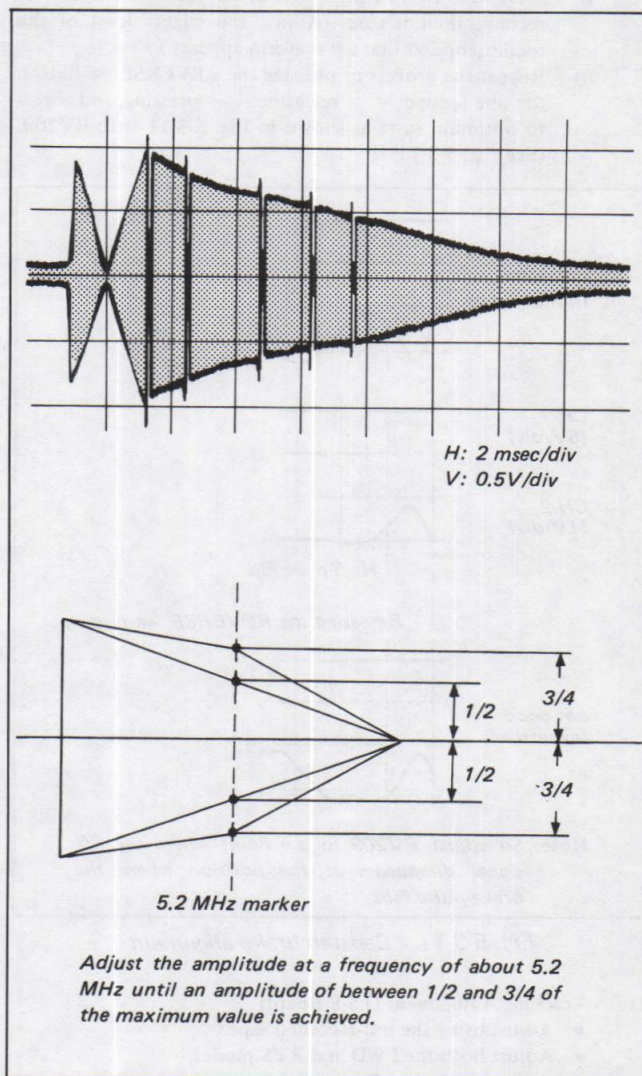

Fig. 5-4-1. Playback amplifier frequency characteristic adjustment
- If the characteristic shown in Fig. 5-4-1 can not be obtained by the adjustment of RV1 or RV3, the amplitude at around 4 MHz can be increased when L8 (6.8 μ H . . . A-CH) or L9 (6.8 μ H . . . B-CH) in REC/PB AMP BLOCK is replaced by 10 μ H (1-407-157-11 or 1-407-190-11).